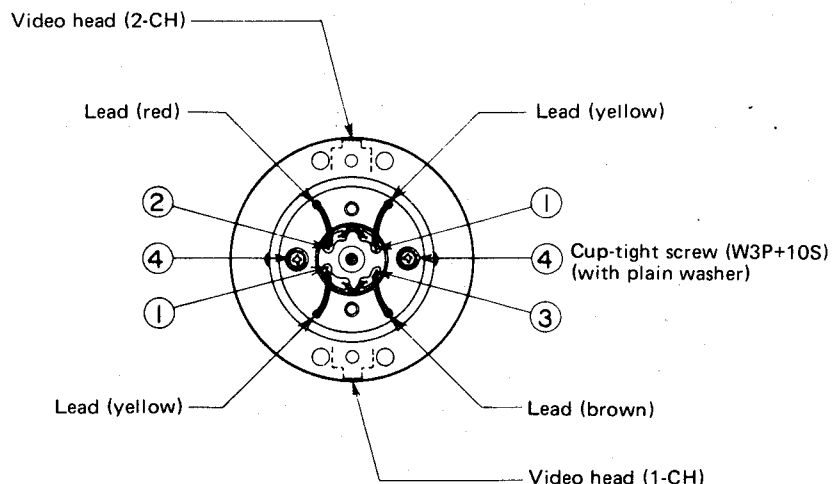

Figure 63.
1. Setting a new upper drum as shown in Fig. 63, positionally arrange the leads at their specified positions.